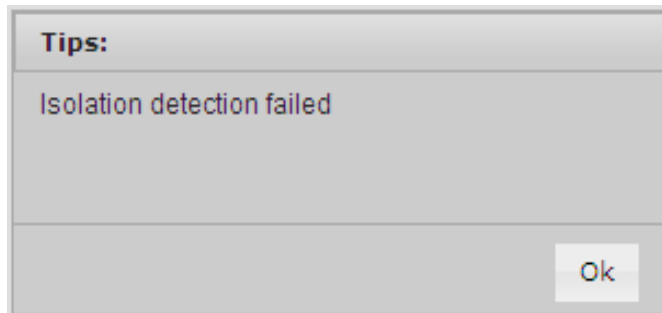

Figure 38: Commissioning Procedure – Isolation Detection Failed
- Click  to continue. If isolation detection passes, the process will go to the RF Setting Screen shown as Figure 38. If failed, a Tips window will pop-up, users need to check whether the system isolation is adequate.